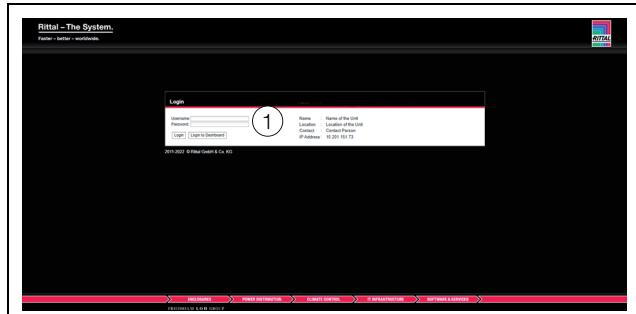

Fig. 22: Log-on screen with an HTTP connection
- Log in with the username **admin** and the password **admin** (fig. 22, item 1).